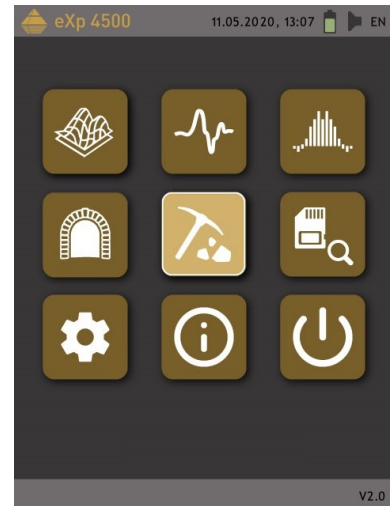

Figure 7.16: Mineral Scan
4. Start the eXp 4500 and select “Mineral Scan” from the main menu (see figure 7.16).